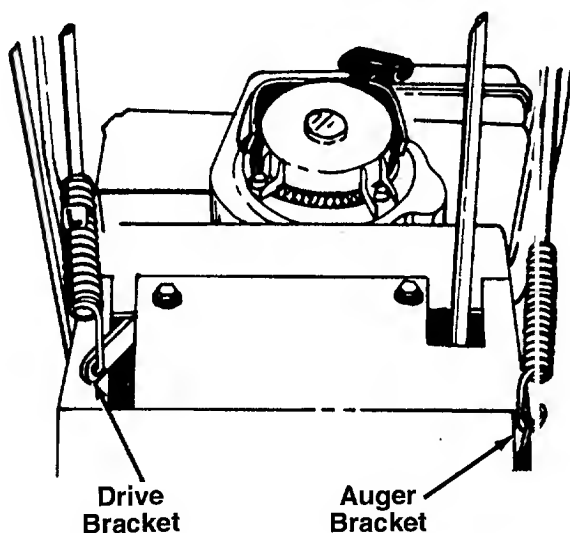

FIGURE 16.
Hook spring into drive bracket. See figure 16.
22. Adjust the right hand lockout rod in the same manner as the left hand lockout rod. Refer to Step 21. When adjustment is correct, hook the spring into the auger bracket. See figure 16.